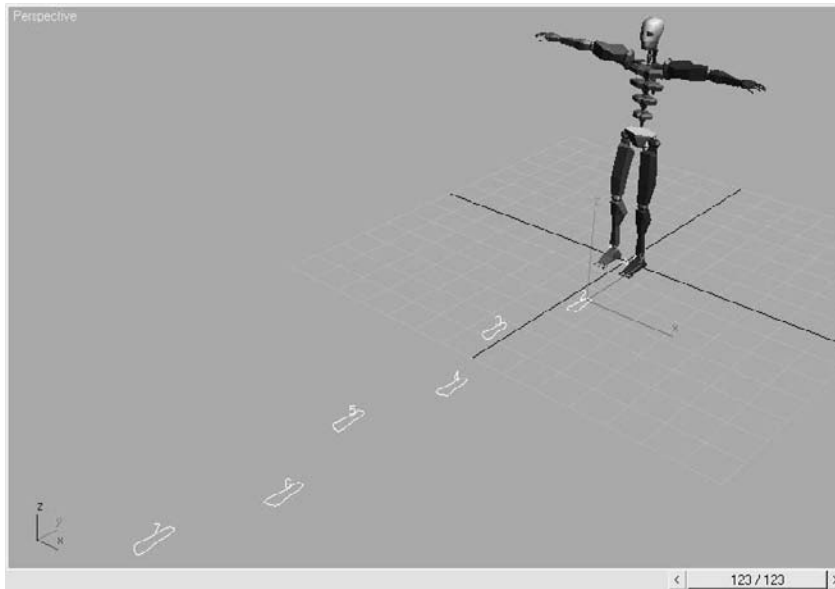

Figure 9.16
4. Zoom out in the Perspective viewport to see the footsteps you just created (Figure 9.16). Look at the Time slider, and note that the scene now ends at frame 123; that's 23 more frames than the 100 frames the scene had at the beginning of this chapter. 3ds Max